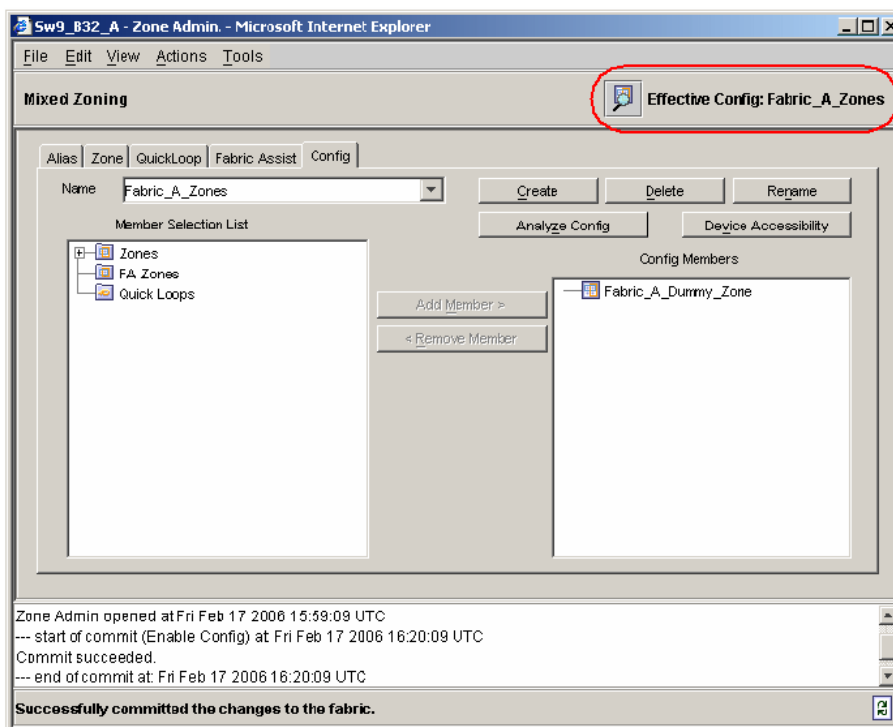

Figure 5-42 Viewing Effective Config
11. Watch the window and wait for zone commit to complete. It may take several seconds. In the Zone window, verify that Fabric_A_Zones is the Effective Config (Figure 5-42).